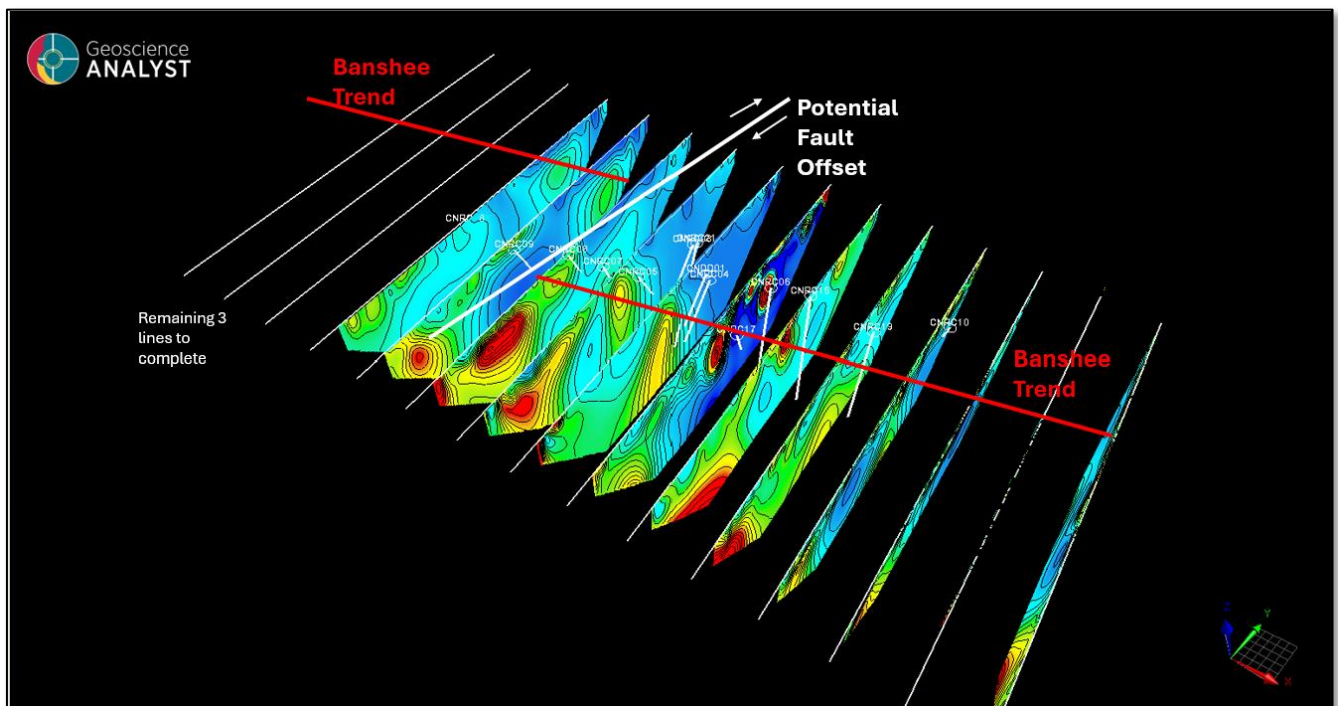
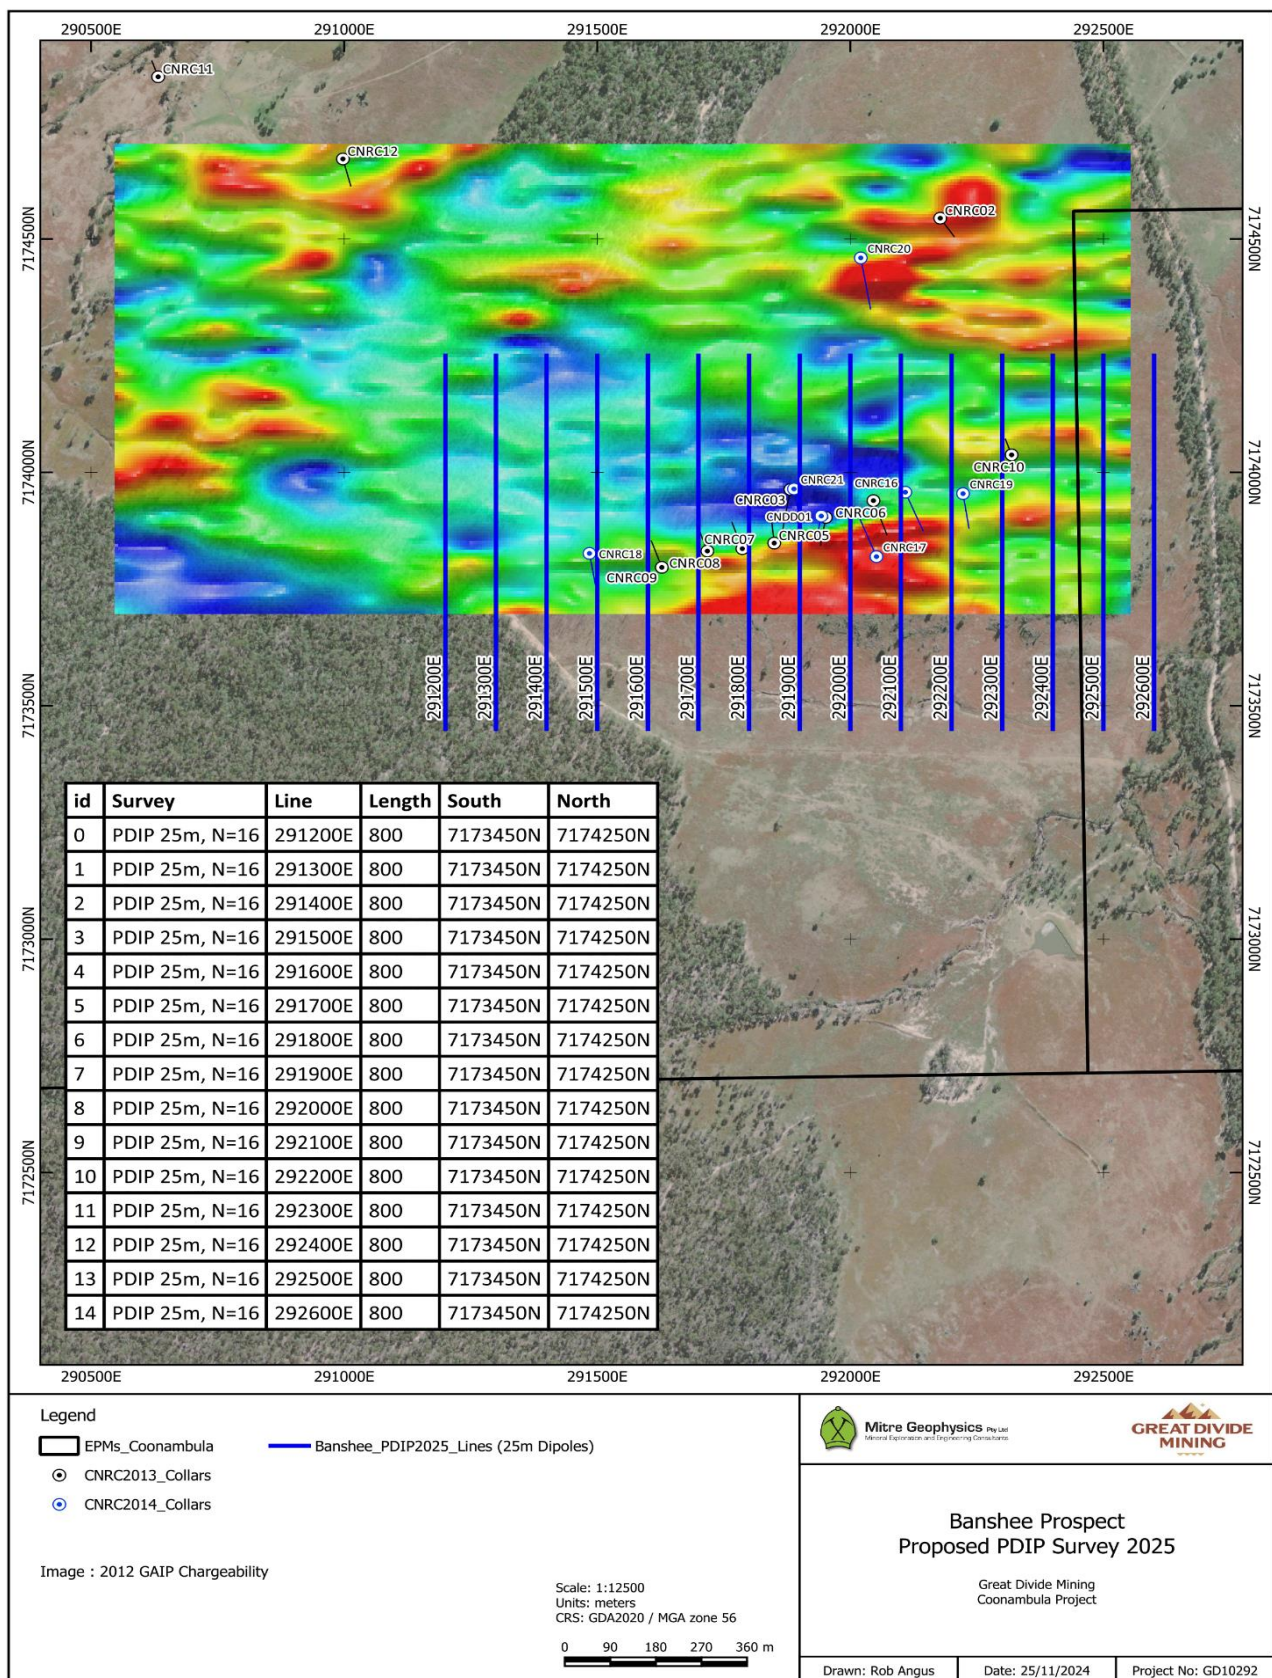

Figure 2: Preliminary orthogonal view (looking North-West) of Pseudo-sections, showing initial interpretation of Banshee Mine trend being offset to the North.
Figure 3: Location of Proposed IP Lines, over the 2012 GIAP Chargeability Image and historic drilling.
- At the western end the chargeable zone appears to be offset to the north suggesting a possible fault offsetting the system and strike extension to the west (Figure 2).
The survey includes 15 x 800 m long North-South oriented survey lines, 100m apart covering 1400m of strike length across the E-W Banshee structure. The IP survey lines are shown in **Figure 2** below, and are also shown on an image of the 2012 Gradient Array IP survey in **Figure 3**. This old IP survey completed by Queensland Ores was not optimally configured to detect narrow sub-vertical targets. The new detailed IP survey involves a different configuration (dipole-dipole with 25 m dipole spacing) and has been designed to better detect the quartz vein hosted mineralisation down to approximately 200 m depth and along strike (1400 m strike length).